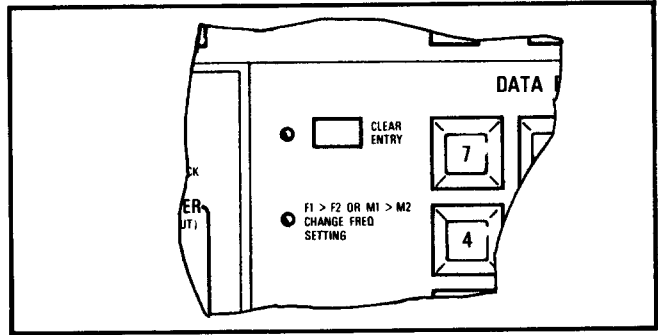

Figure 3-8. CLEAR ENTRY Pushbutton and F1>F2 OR M1>M2 Indicator
e. CLEAR ENTRY Pushbutton and Indicator and F1>F2 OR M1>M2 CHANGE FREQUENCY SETTING Indicator (Figure 3-8).